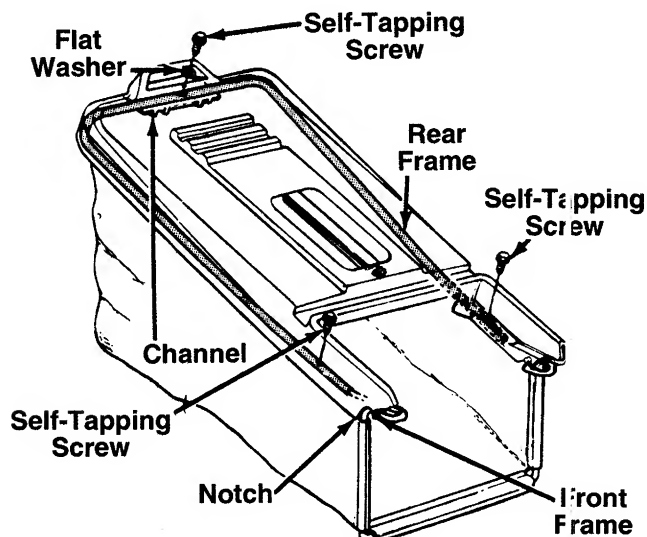

FIGURE 13.
4. Attach the hardtop cover to the grass catcher as follows. See figure 13.
- c. Attach rear of cover to frame using the flat washer and one self-tapping screw as shown in figure 13. Attach the sides of the cover to frame with the other two self-tapping screws.